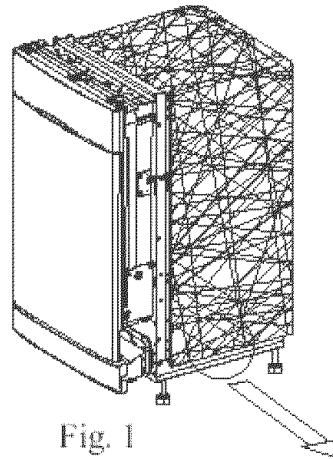

Fig. 1
- The overflow container is located at the lower right side of the dishwasher underneath the insulation jacket. (See Fig. 1)